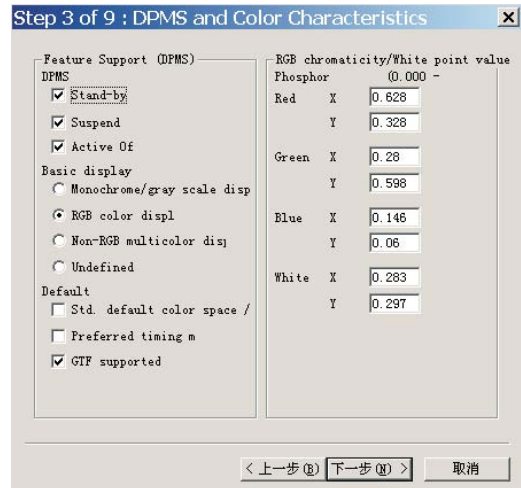

Fig. 15
2. Click Next , bring up Fig. 15.